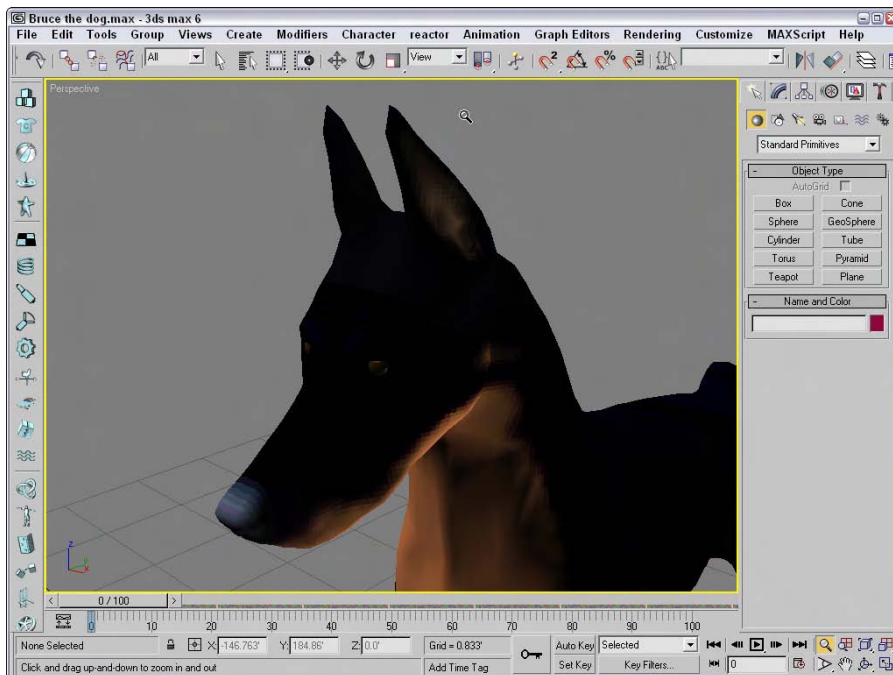

Figure 2-6: The Perspective viewport zoomed in on the dog's head using the Zoom and Pan controls
3. Click the Pan button (or press Ctrl+P), and drag the window until Bruce's head is centered in the viewport. Then click the Zoom button (or press Alt+Z), and drag in the Perspective viewport until Bruce's head fills the viewport, as shown in Figure 2-6.